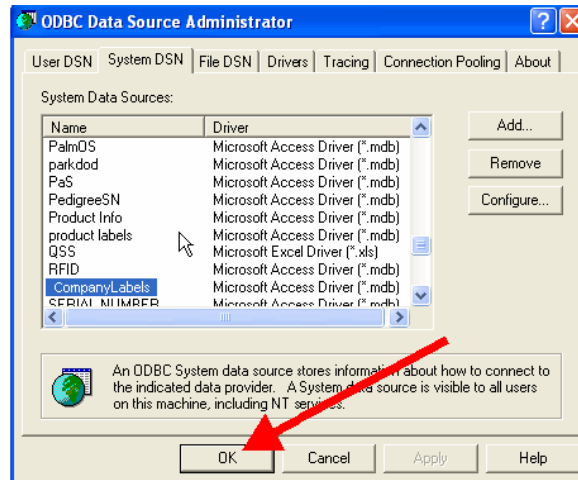

Figure 2-16
2.5.9. You should now be back at the *ODBC Data Source Administrator* screen. (Figure 2-16). Click [OK].